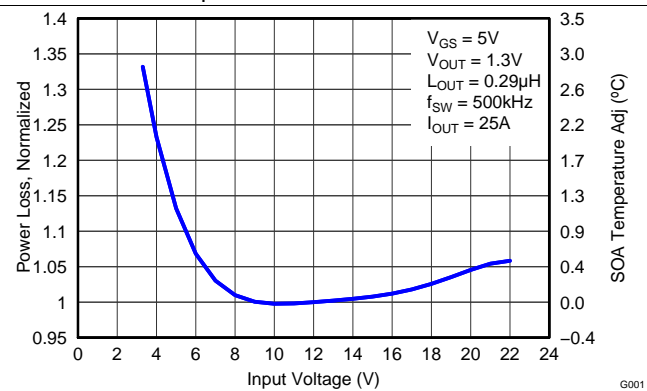

Figure 6. Normalized Power Loss vs Input Voltage
- Normalized Power Loss for input voltage ≈ 1.03 (Figure 6)
- SOA adjustment for input voltage $\approx 0.3^\circ\text{C}$ (Figure 6)